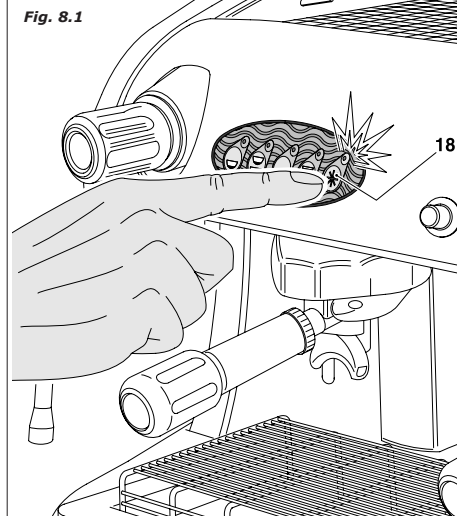

Fig. 8.1
- Keep the key (Fig. 8.1 – item 18) pressed in until the relative LED flashes and the versions fitted with a display show up the "PROGRAMMING SELECT WITHIN 30s" message
- During the dispensing cycle, the LED corresponding to the selected program key will stay on, as will the LED on key (18). The versions fitted with a display will show up the "PROGRAMMING" message followed by the type of coffee being adjusted (espresso or "long" diluted (i.e. weaker)).